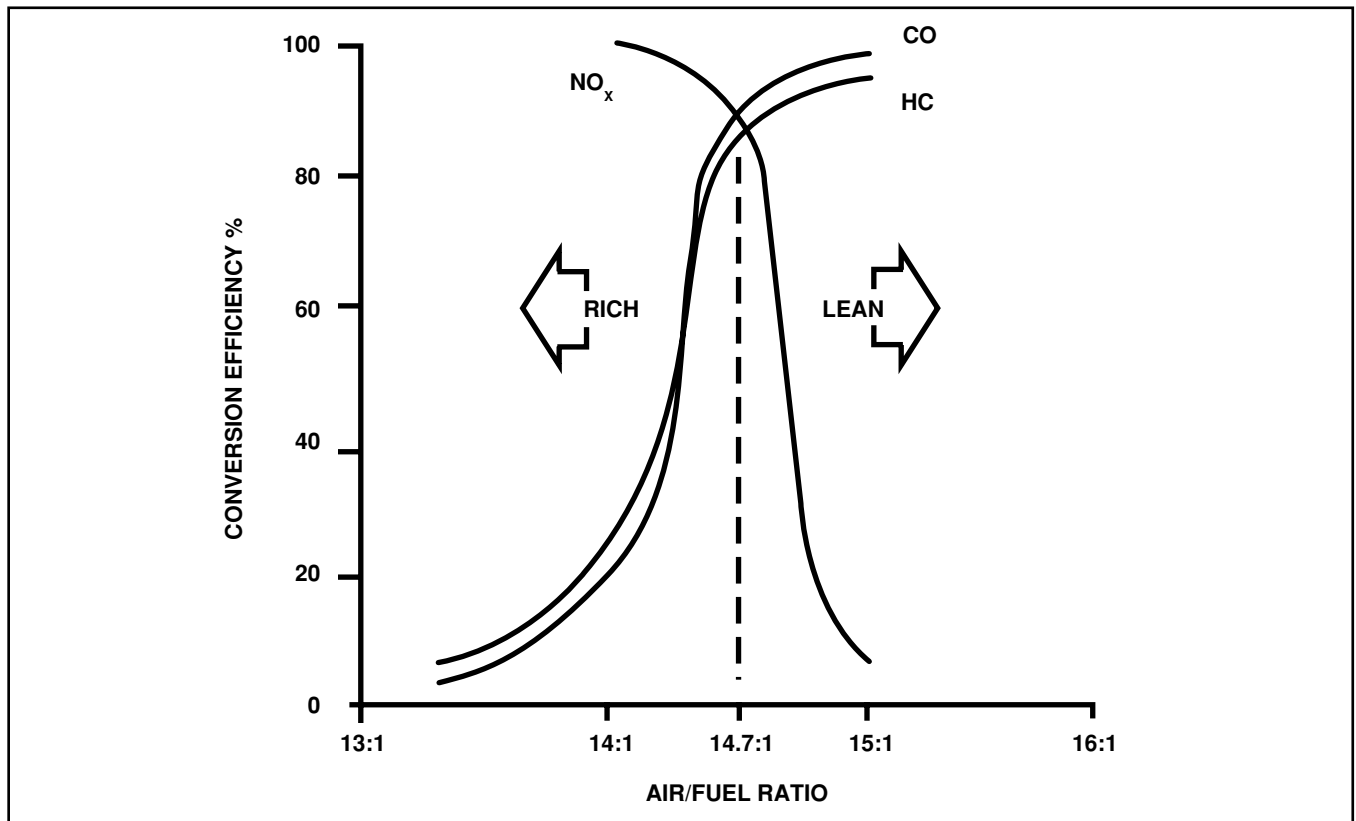

Figure 39 Conversion Efficiencies of a Three-Way Catalyst
The latest technology provides the use of a three-way catalytic converter on most automobiles. The three-way catalyst simultaneously converts three harmful exhaust emissions into harmless gases. Specifically, HC and CO emissions are converted into water ( $H_2O$ ) and carbon dioxide ( $CO_2$ ). Oxides of nitrogen ( $NO_x$ ) are converted into elemental nitrogen (N) and oxygen. The three-way catalyst is most efficient in converting HC, CO and  $NO_x$  at the stoichiometric air/fuel ratio of 14.7:1 (fig. 39). If the mixture becomes leaner than 14.7:1 (extra oxygen), the ability to convert  $NO_x$  drops. As the mixture becomes richer than 14.7:1 (less oxygen), the ability to convert HC and CO drops.